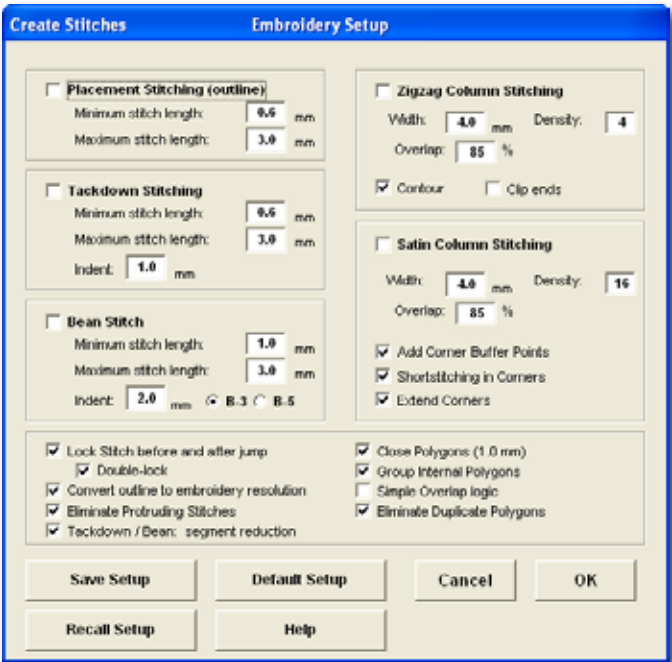

Figure 21. Creating stitches.
3. Select your desired stitch type(s) (**Figure 21**).